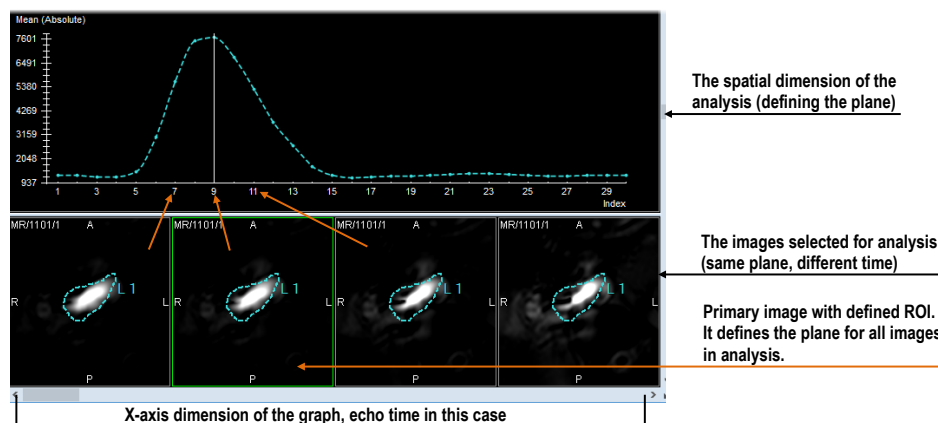

**Figure 369 – Analysis calculated on the MR9 – MR14 series, ROIs defined on the primary image**
- **Single-dimensional image series** - the images of the same spatial positions across all the available series within the study are searched for (see Figure 369). This, for example, allows to evaluate the time course of the saturation of the contrast agent on a study composed of multiple image series, each of them scanned at a different time (though with the images on the same positions, see Figure 369). The navigation among the images in the analysis is performed using the series number when the quantitative analysis is created across series; when the quantitative analysis is created within a single image series, the slice number is used for navigation.